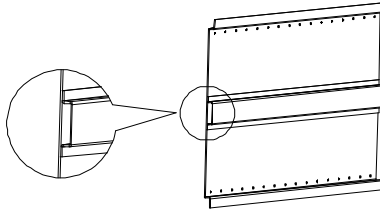

Figure 4-4 Weld a transverse reinforcement beam on the back of the backplane.
- ✧ The backplate can be reinforced if necessary. It is recommended to weld a transverse reinforcement beam on the back of the backplate (as shown in Figure 4-4). This can significantly improve the load-bearing capacity of the backplate and enhance the overall structural stability.